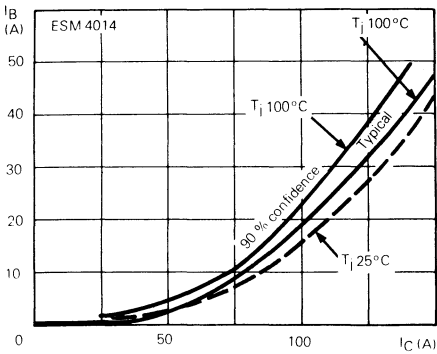

Fig.2 : Minimum base current to saturate the transistor.
**TURN-ON SWITCHING CHARACTERISTICS - CARACTÉRISTIQUES DE COMMUTATION A LA MISE EN CONDUCTION (Fig. 2)**